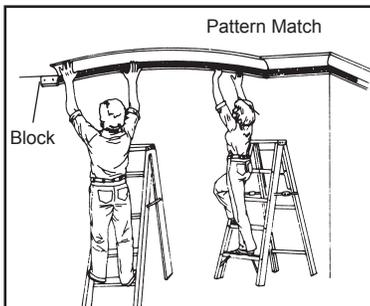

Figure 2
- Cut mouldings 1/4" longer and spring into place. If necessary, screw a wooden block to the wall and spring moulding against the block. Screw or nail moulding into place then remove the block (*see Figure 2*).